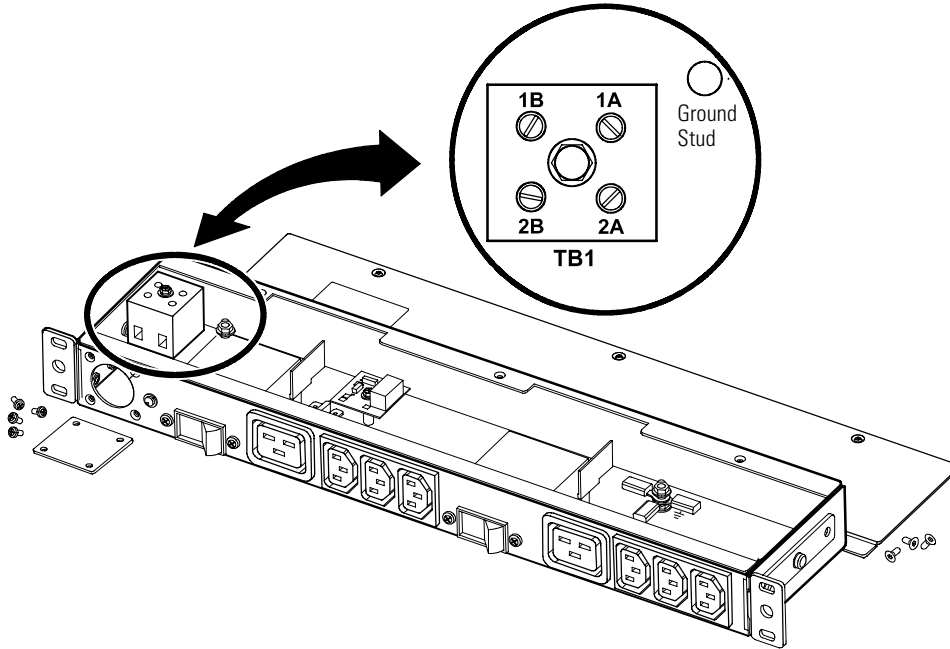

Figure 14. Terminal Block (ePDU Top View)
10. From the ground stud near the terminal block, remove the installed nut and retain (see Figure 14).
11. Connect the input wires to the input terminal block and the ground wire to the ground stud according to Figure 14 and Table 1.